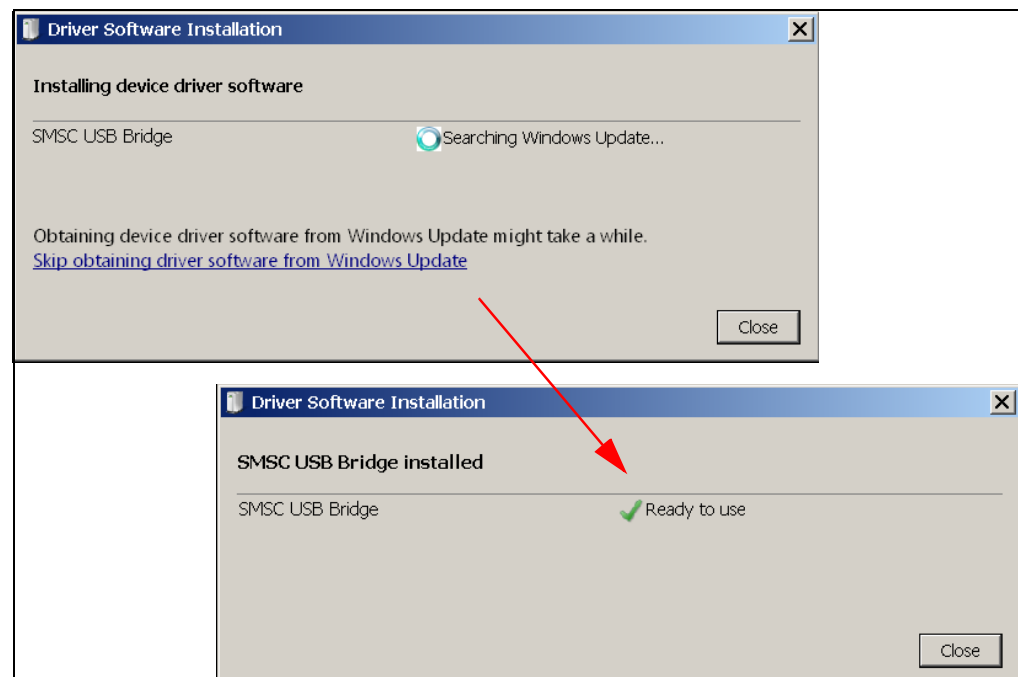

FIGURE 2-1: Device Driver Load and Complete.
4. If the USB Bridge driver has not previously been installed on the selected USB port, the Driver Software Installation window pops up, prompting for the driver install (see Figure 2-1).